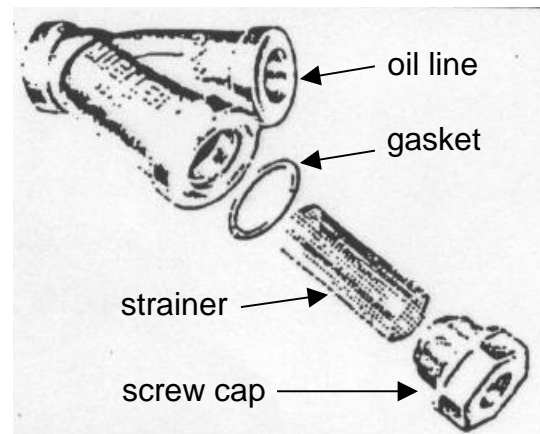

Figure 10-5d. "Y" Type Screwed End Strainer
9. Clean and inspect "Y" Gate strainer (figure 10-5d). Require two manpower (Annually). Clean all work areas to avoid oil contamination.